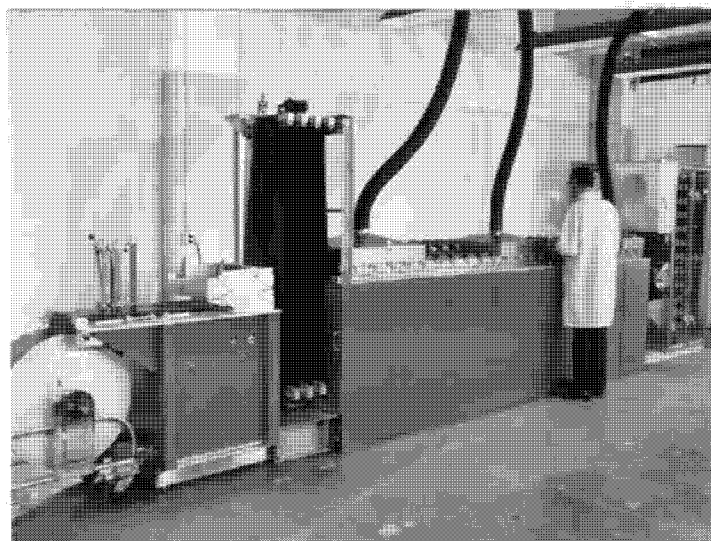

Figure 65
- Figure 65 - Multi-Purpose Modular Processor (MP²)